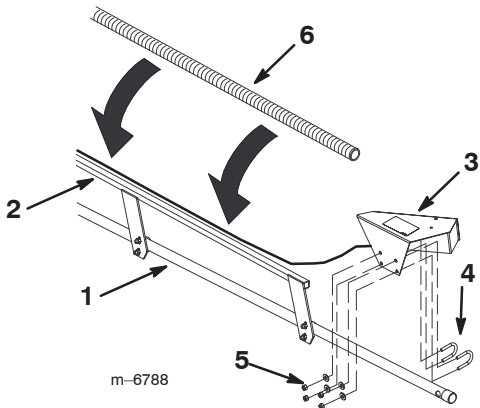

Figure 1
3. Lightly secure the right ultrasonic sensor to the right boom pipe halfway between the last nozzle and the vertical support (Fig. 1), using 2 U-bolts, 4 washers (5/16 inch), and 4 locknuts (1/4 inch).
5. Route the sensor wire along the top of the boom support to the center of the center boom pipe (Fig. 1).
6. Place the split, black corrugated tube over the sensor wire and boom support to cover the wire from the sensor to the end of the boom support (Fig. 1).